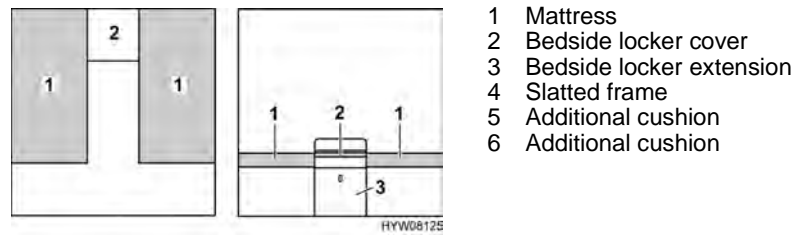

Fig. 74 Prior to conversion
- Remove the bedside locker cover (Fig. 74,2) and put it to one side.